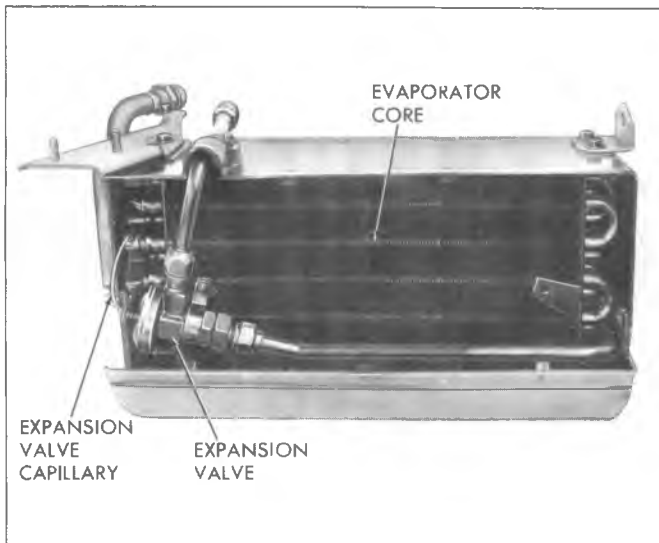

Fig. 58—Evaporate Core and Expansion Valve Location
Expansion Valve (Fig. 58)—Remove the evaporator core outlet line cover. Remove the expansion valve capillary bulb clamps. Remove the expansion valve clamp screw. Disconnect the valve inlet and outlet lines and remove the expansion valve. Cap or tape the open connections at once.
Evaporator Core (Fig. 58)—Remove the evaporator core outlet line cover. Remove the expansion valve capillary bulb clamps. Remove the (4) upper case to core screws, core outlet line clamp screw and expansion valve inlet line clamp screw. Remove the upper case from the core and expansion valve. Disconnect core at the inlet and outlet line connections and separate the core and expansion valve. Cap or tape the open connections at once.